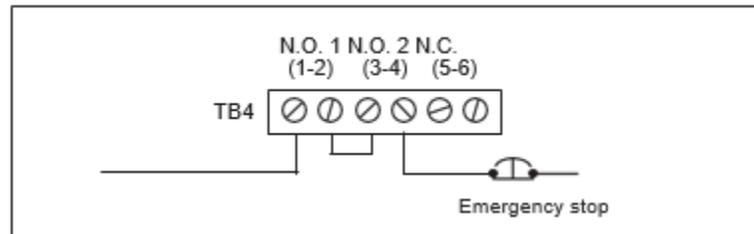

Figure 2-30. Relays Wired to Emergency Stop Circuit, N/O Configuration
2. Connect pins #1 and #4 on TB4 in series with the stop circuits on the press, and place a jumper between pins #2 and #3, as shown in *Figure 2-30*, page 77, and in *Figure 2* at the end of the manual.
To ensure maximum safety, you must wire and program the PLC so it can detect an internal component failure and immediately stop the press. Two of the three outputs from Shadow 9's control relays, labelled "N.O. 1," "N.O. 2," and "N.C." (see Figure 2-30, page 77), must be connected separately to a PLC.